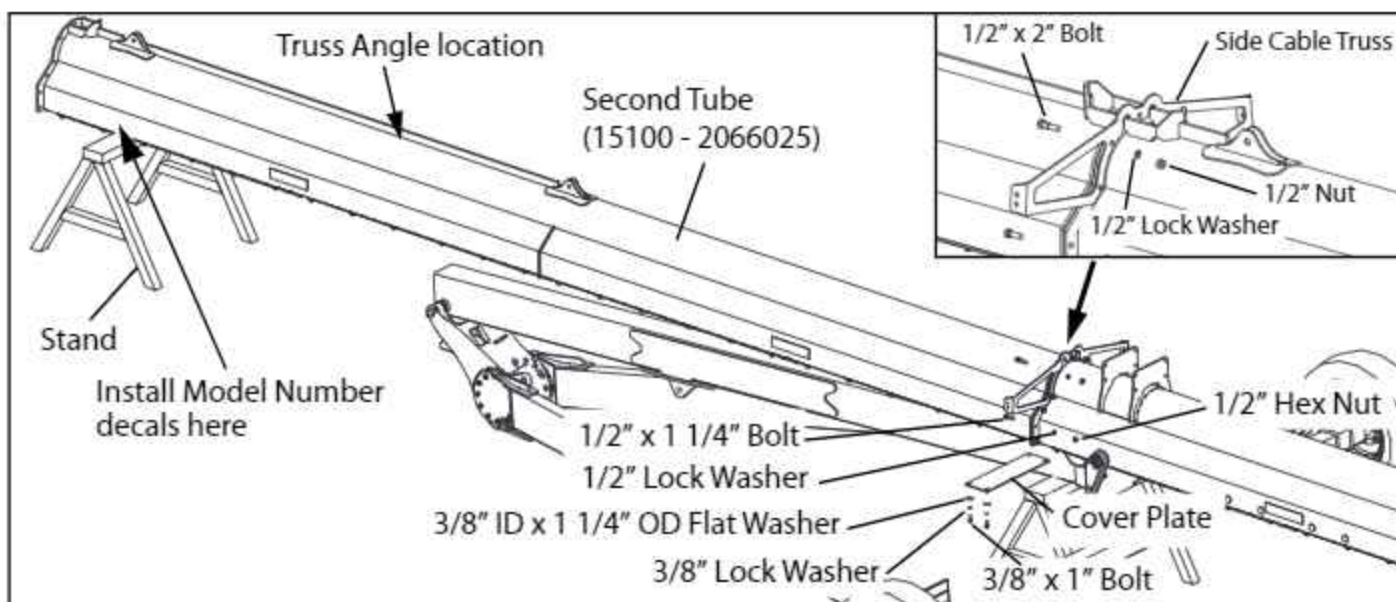

FIG. 3-13. Second Tube Installation - 15100
2. Place a stand where shown in Fig. 3-13. Bring in the Second Tube Assembly. Make sure it is oriented as shown. Remove any Wind Guard Plates necessary to gain access to the tube flanges.
12. Install the Cover Plates over the flange joints as shown in Fig. 3-13 and 3-14.